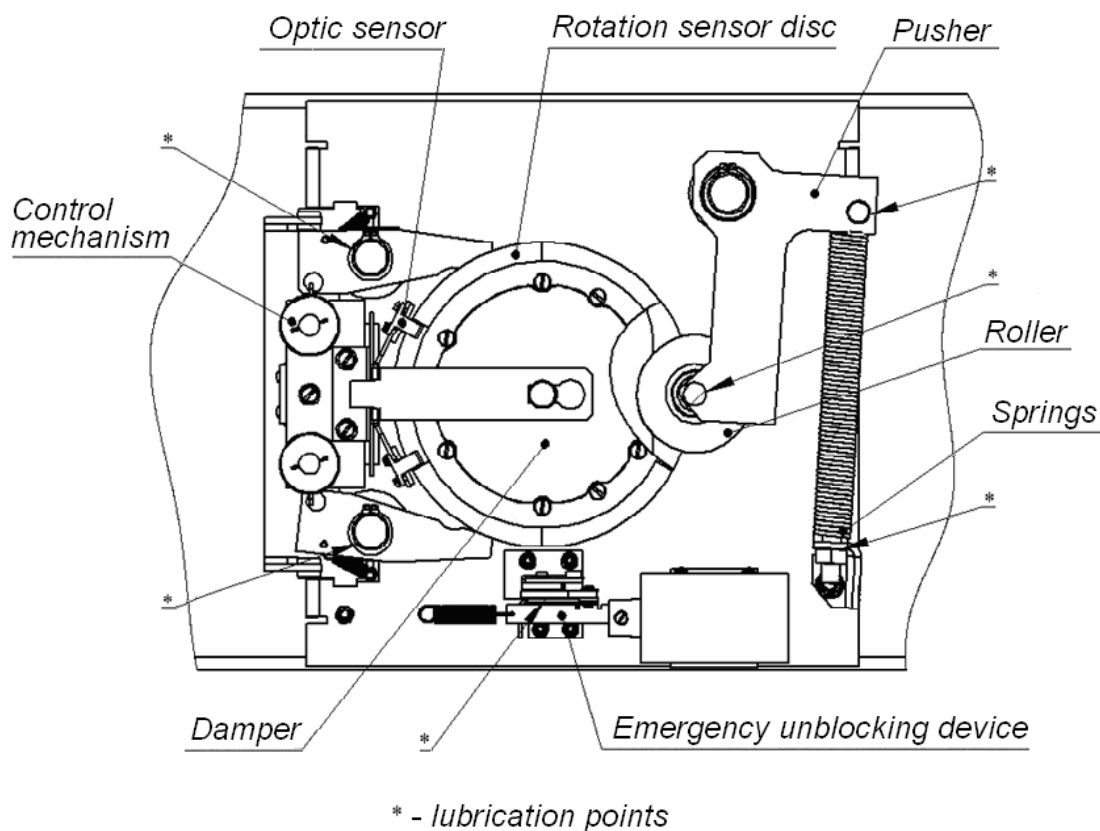

Fig. 16. Interior components of the TBC-01.1A turnstile mechanism
2. Remove the turnstile top cover (3) from the turnstile housing as described in Section 6.
4. Inspect the resetting mechanism (a pusher, springs and a roller), optic sensors and a damper (Ref. Fig. 16).
6. Lubricate with machine oil (lubrication points are marked in Fig. 16).